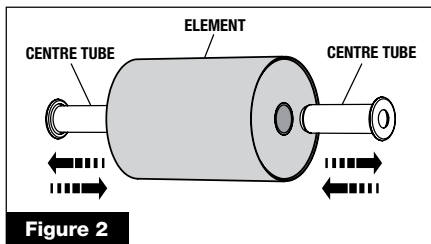

Figure 2
- 5 Remove the centre tubes from each end of the old elements and retain (**figure 2**).
- 14 Insert the centre tubes into the new elements. Ensure they are fully inserted (**figure 2**).